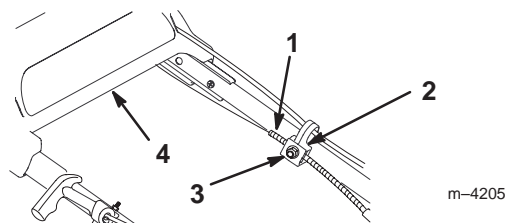

Figure 30
3. Loosen the cable support nut (Fig. 30).
5. With the upper handle pulled and held back as far as possible and while holding the belt guide tab down, pull the cable jacket down (toward the lawn mower) to remove all the slack in the cable (Fig. 30).
6. Tighten the nut on the cable support (Fig. 30).